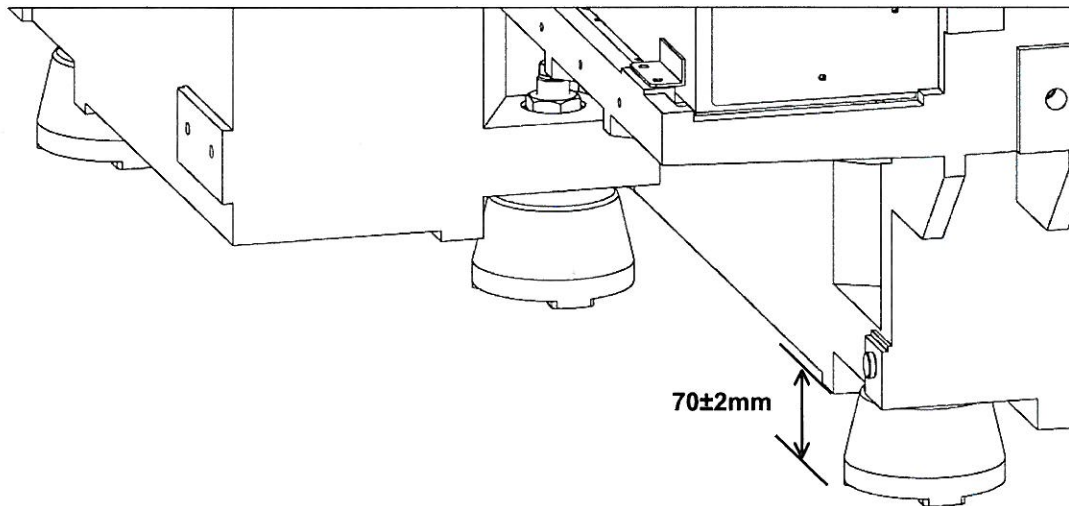

Figure 6.4.1.1: Leveling height
F3 / F5 Machine is supported at 6 points. The 6 points are shown in the basic bed figure 6.4.1 and 6.4.2.
- Support the machine on the floor initially by leveling bolts 1, 2, 3 & 4 (Figure 6.4.1.2).